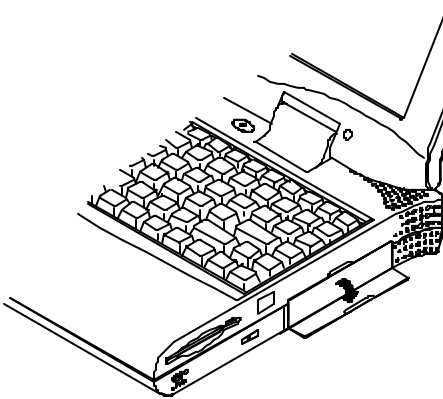

Figure 2-14
1. Open the access door (Figure 2-14).